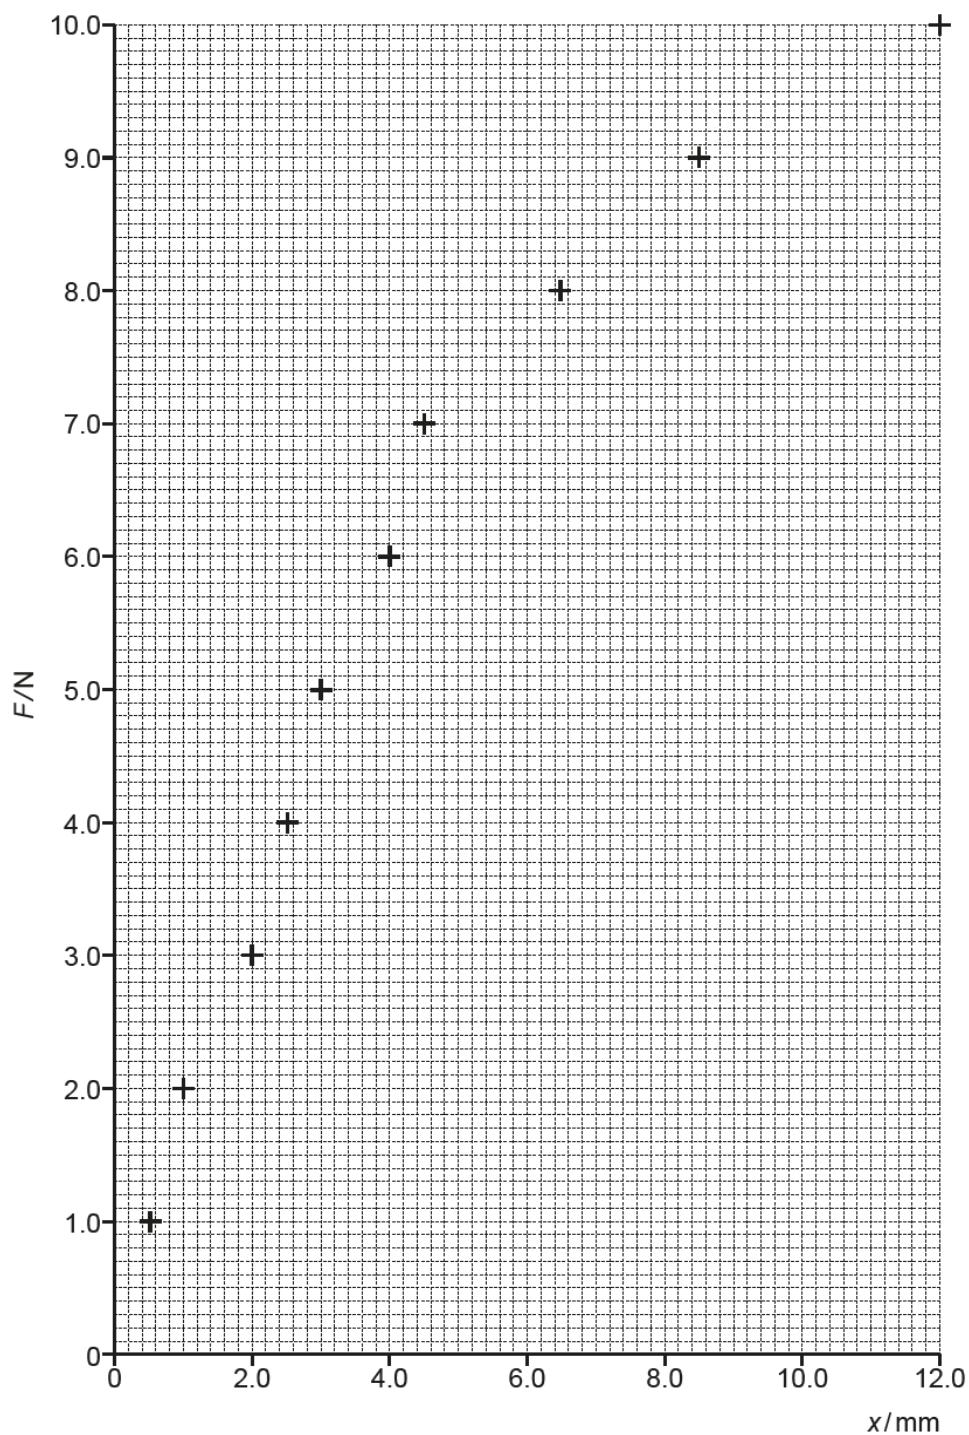

Fig. 4.2
Fig. 4.2 shows the extension x of a metal wire at different applied loads F . x is measured to ± 0.5 mm and F is measured to ± 0.2 N. Fig. 4.2 shows the force-extension graph for the wire.
- (i) On Fig. 4.2